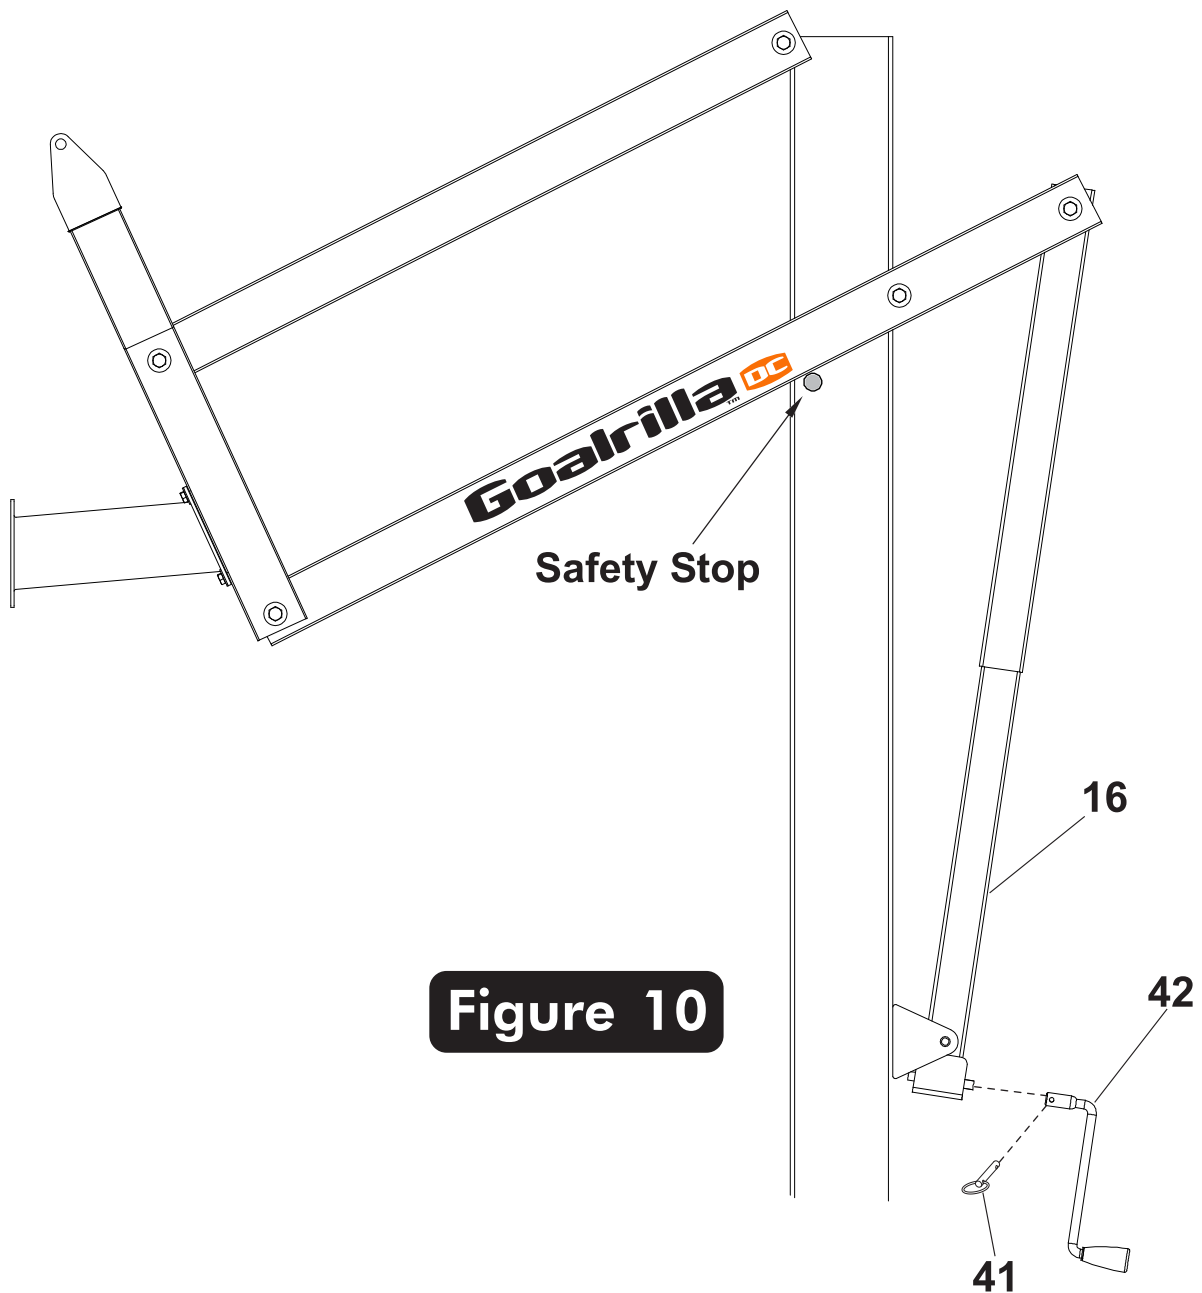

Figure 10
16. Slide Actuator Crank (#42) onto shaft on the bottom of Actuator (#16). Line up hole in shaft with hole in Actuator Crank and insert Pull Pin (#41) to secure. See Figure 10.